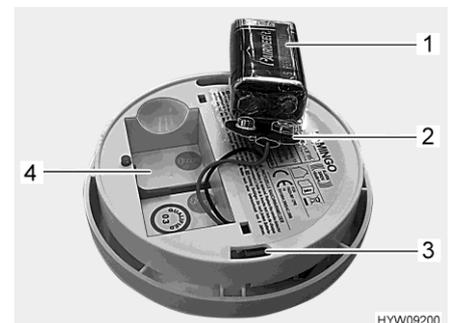

Fig. 126 Smoke alarm (rear side)
- Remove the battery and disconnect it from the battery clip (Fig. 126,2).
- Connect the new battery (Fig. 126,1) at the battery clip (Fig. 126,2). When doing so, make sure that the battery poles engage on the battery clip.
- Place the battery into the battery compartment (Fig. 126,4).
- Place the smoke alarm (Fig. 127,1) onto the holder (Fig. 127,3). The holding lugs (Fig. 127,2) must engage in the openings (Fig. 126,3) in the smoke alarm.